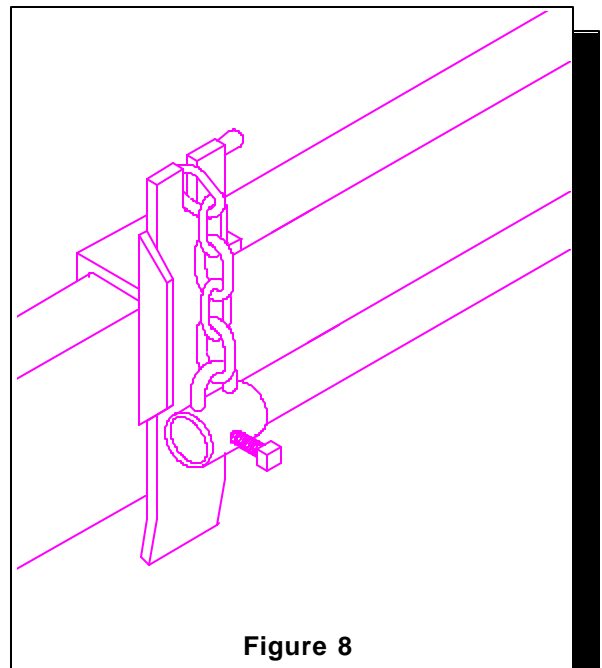

Figure 8
16. Turn spring bar set screws (B) clockwise until point of set screw (B) contacts chain bracket (A) with slight pressure, refer to **Figure 8**, then rotate set screws (B) up to two full turns.